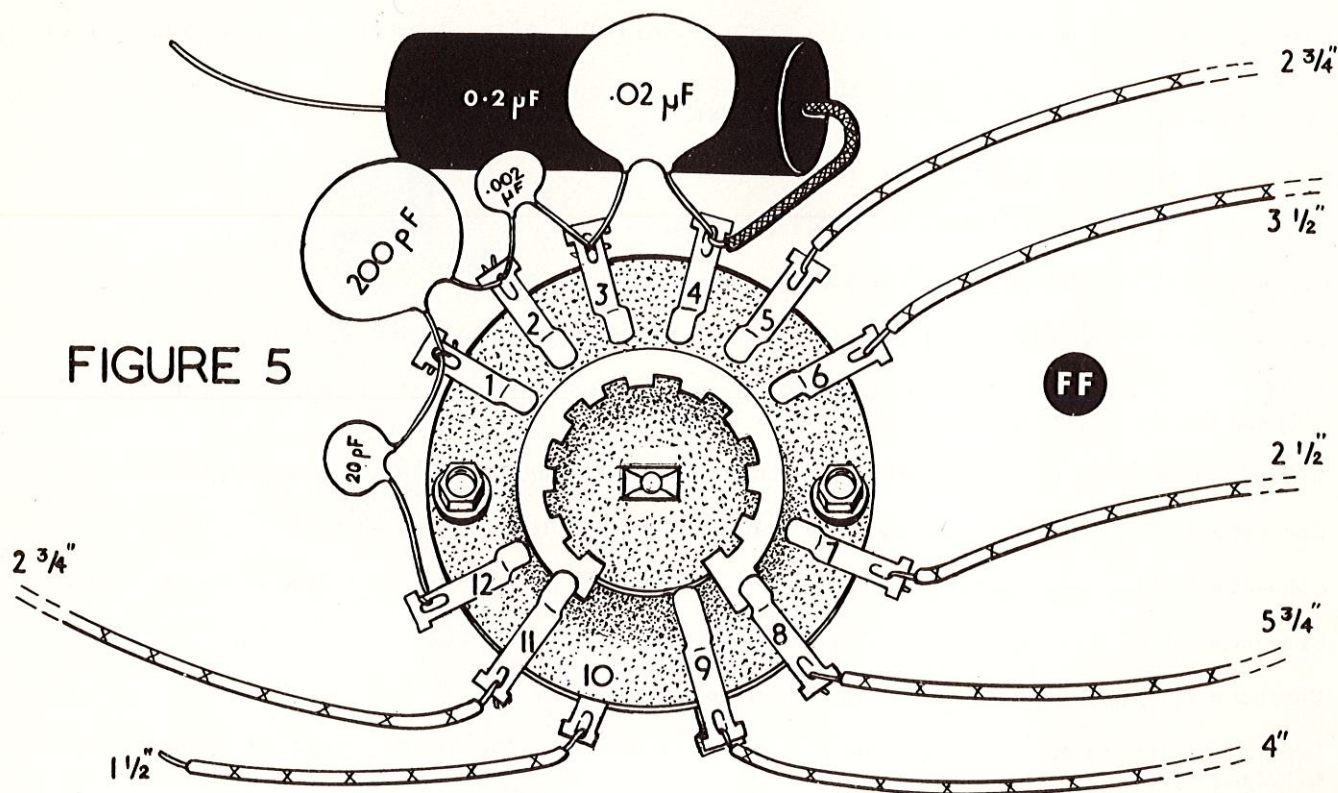

FIGURE 5
- () Select the HOR/FREQ. SELECTOR switch FF. This is the 12-tag wafer switch. Note that one of the contacts has tags on both sides of the wafer. Using this tag as a reference, position the switch as shown in Figure 5. Also note that tag 10 is on the shaft side of the wafer.
Refer to Figure 5 for the following steps:
- () Connect a 20 pF ceramic disc capacitor from FF tag 12 (NS) to FF tag 1 (NS).
- () Connect a 200 pF ceramic disc capacitor from FF tag 1 (S-2) to FF tag 2 (NS).
- () Connect a .002 μ F ceramic disc capacitor from FF tag 2 (S-2) to FF tag 3 (NS).
- () Connect a .02 μ F 500V ceramic disc capacitor between FF tag 3 (S-2) to FF tag 4 (NS).
- () Carefully check the switch wiring against Figure 5. Make sure that there is no short circuit from FF tags 1, 6, 7 and 12, to the nuts holding the switch together.